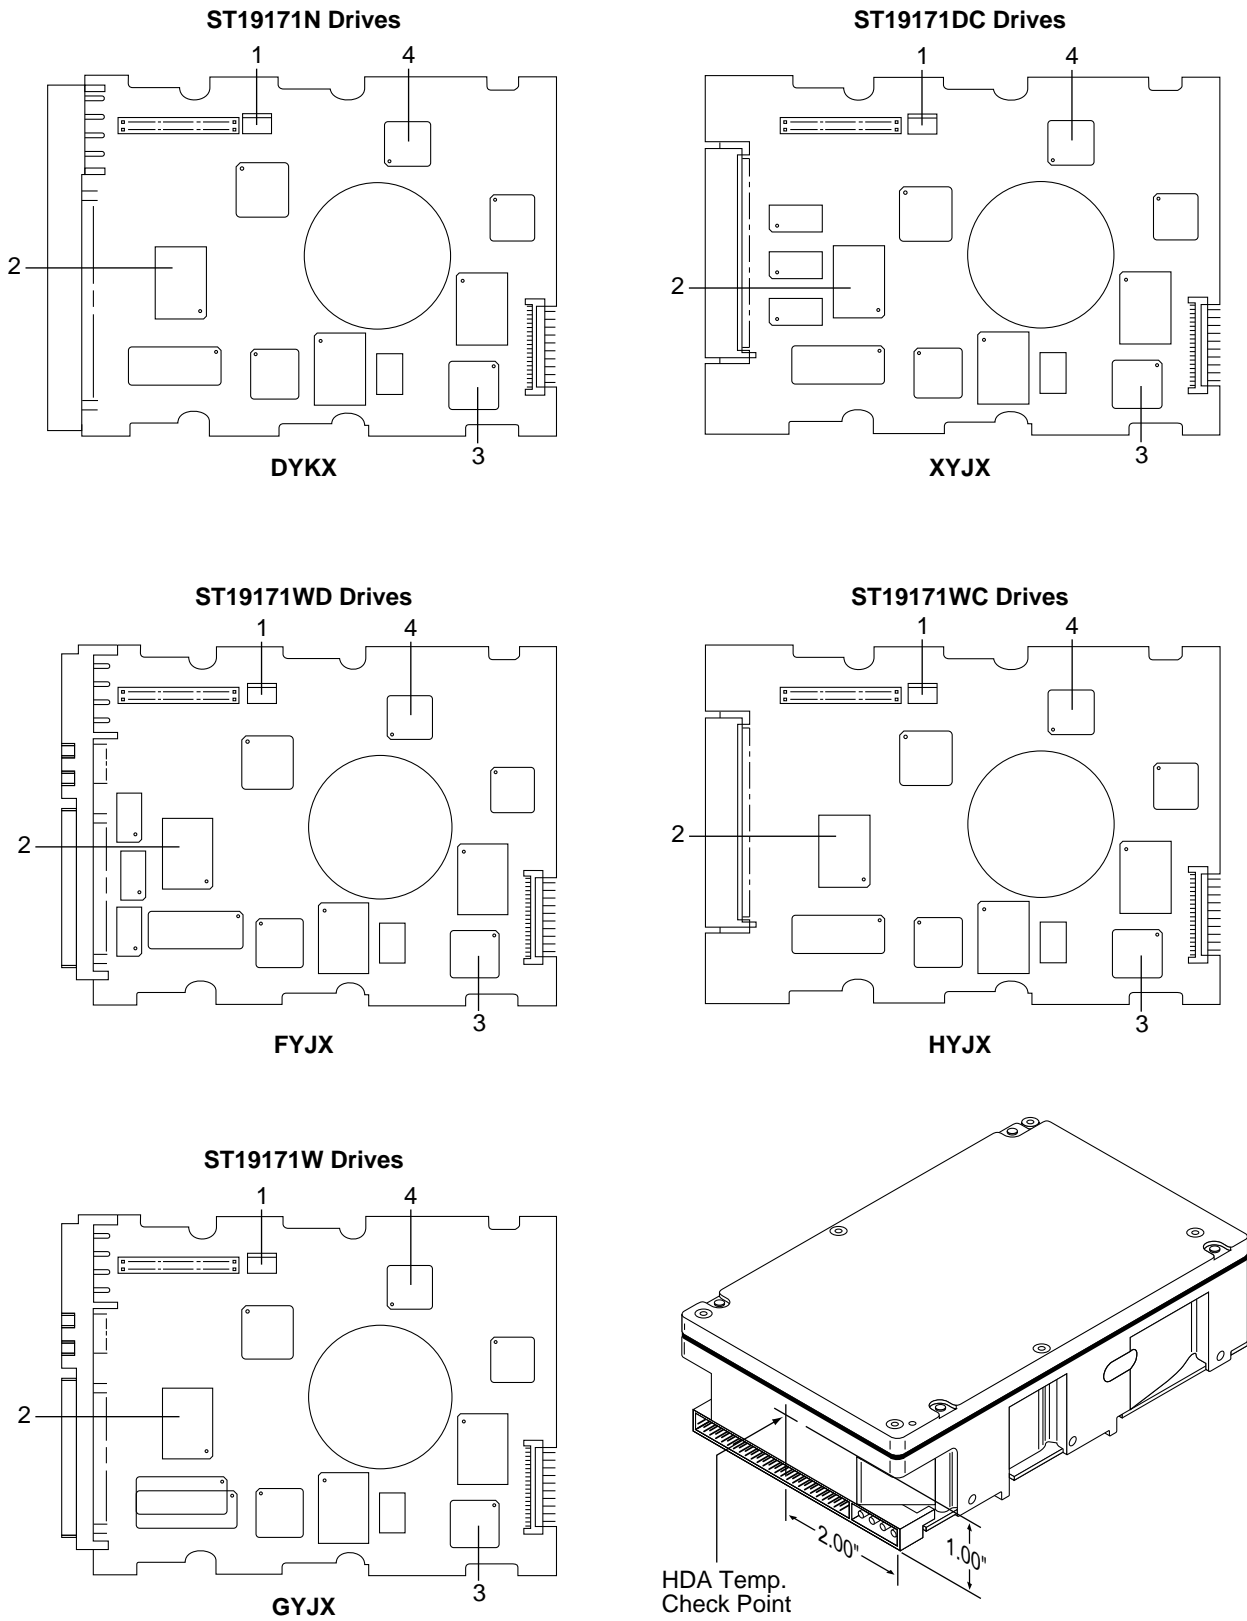

Figure 4a. Location of PCB components listed in Table 3
- [3] Measure HDA temperature at point labeled “HDA Temp. Checkpoint” on Figures 4a and 4b.